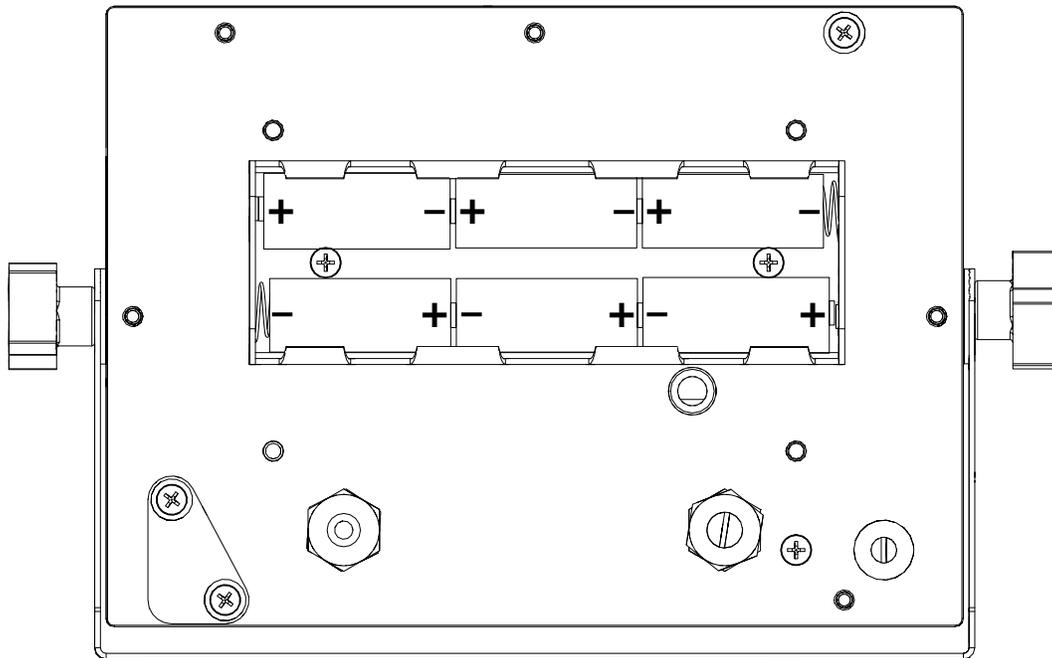

Figure 2-6. Battery Installation
2. Install six alkaline C-cell batteries as shown in Figure 2-6.